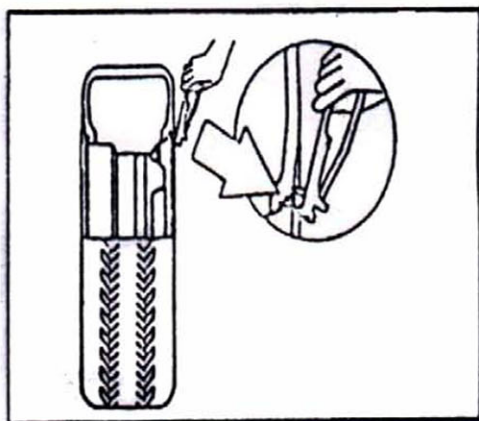

Fig18
4.1.1 Deflate the air in the tire completely and pull out the core. Use the special tool to detach the weight on the rim (FIG18).